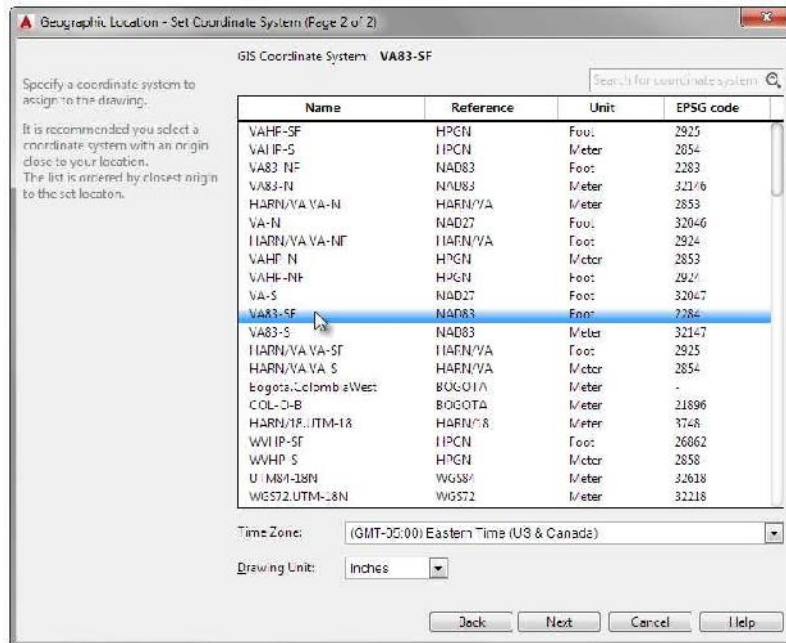

FIGURE 17.14 Designating a geographic coordinate system for the cabin project
12. Choose VA83-SF (VA83-S) from the list of available coordinate systems within this dialog box (see Figure 17.14). Click Next.